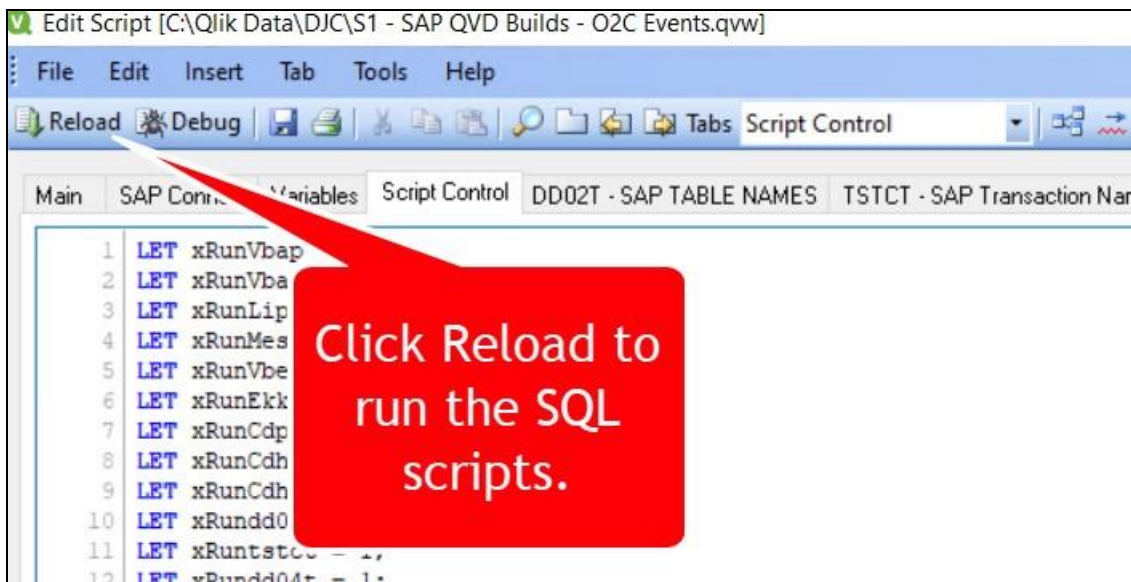

Figure 2 - Image showing how to run Qlikview Scripts
1. To run the Qlikview script, click the “reload” button seen in Figure 2. Alternatively pressing “CTRL + R” will run the Qlikview Script.